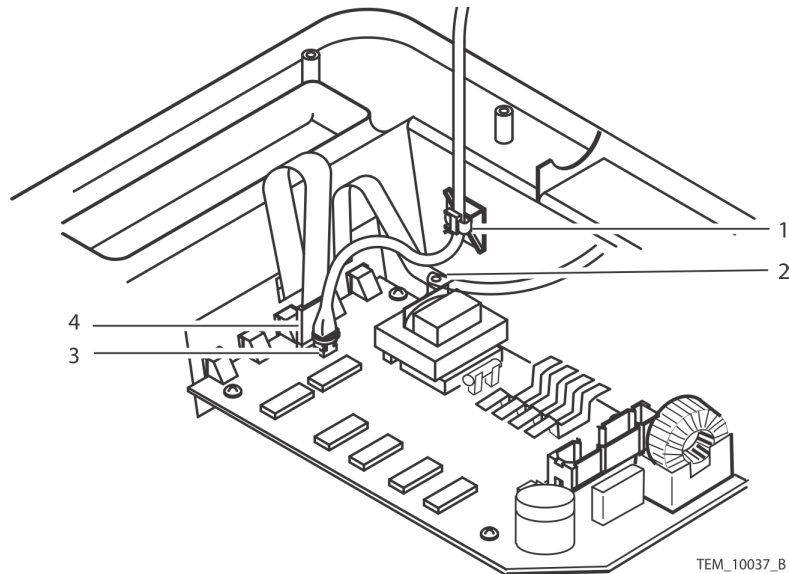

Figure 27. Cable Connections
18. Connect the ribbon cable (Figure 27, item 4) to the Control PCBA.
19. Connect the thermistor cable (Figure 27, item 3).
20. Install a cable tie around the thermistor cable connector (Figure 27, item 3) and Control PCB connector to secure the thermistor cable to the PCBA.
21. Connect the keypad grounding strap and blower ground wire. See Figure 27, item 2. Tighten the screw to 4 to 6 in/lbs (10 to 15 cm/kg).
22. Install a cable tie around the thermistor cable and the cable tie mount (Figure 27, item 1) to secure the thermistor cable to the front cover.